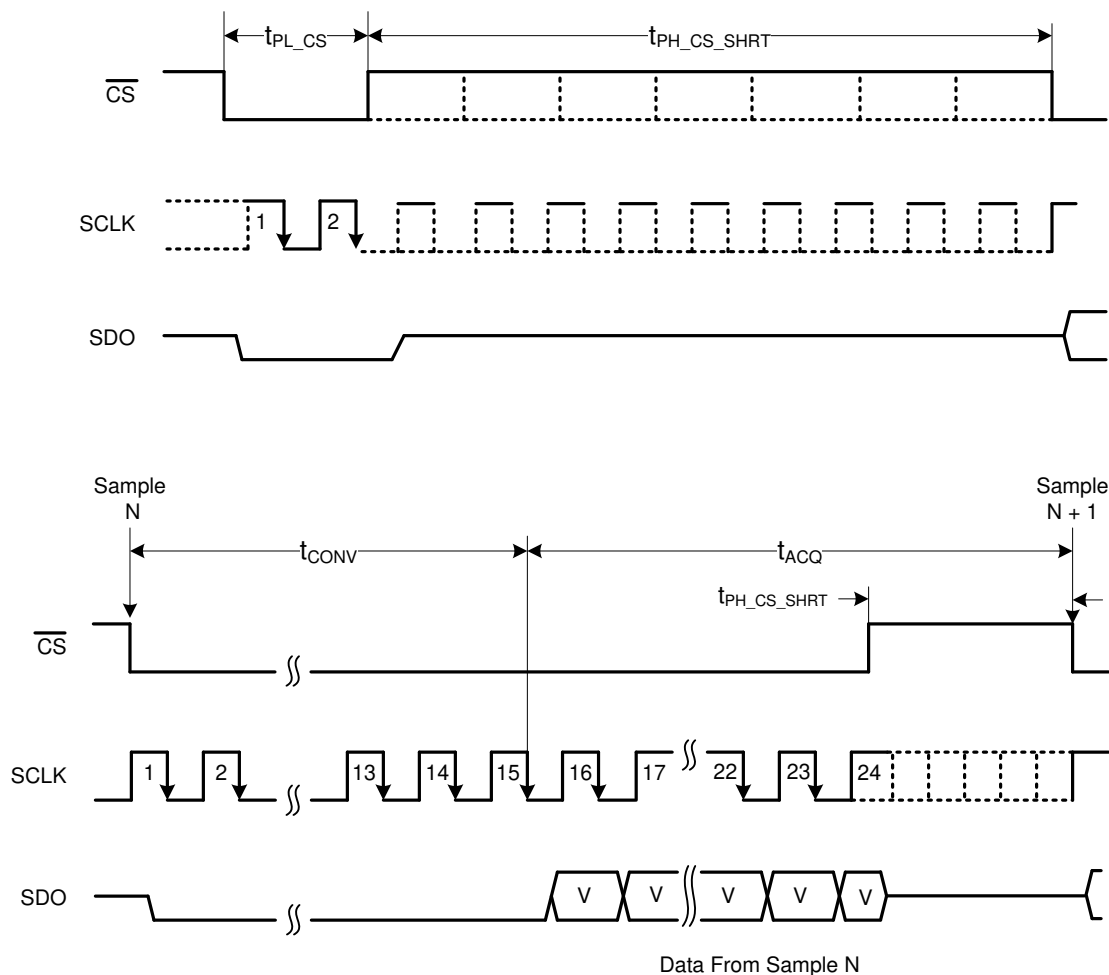

图 7-12. Frame Abort, Reconversion, or Short-Cycling Feature
As shown in 图 7-12, the minimum number of SCLK falling edges (N) that must be provided between the beginning and end of the frame depends on the serial interface mode. The SCLK falling edges (N) program the device and retrieve the conversion result. If $\overline{\text{CS}}$ is brought high before the expected number of SCLK falling edges are provided, the current frame is aborted and the device starts sampling the new analog input signal.